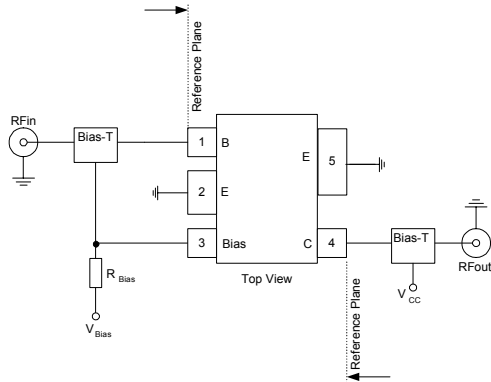

Fig. 2: Test circuit for electrical characteristics and S-parameter
**Electrical Characteristics** at  $T_A=25^\circ\text{C}$  (measured in test circuit specified in fig. 2)
**S-Parameter**  $T_A=25^{\circ}\text{C}$ ,  $V_{CE}=2\text{V}$ ,  $I_C=100\text{mA}$  (measured in test circuit specified in fig. 2)